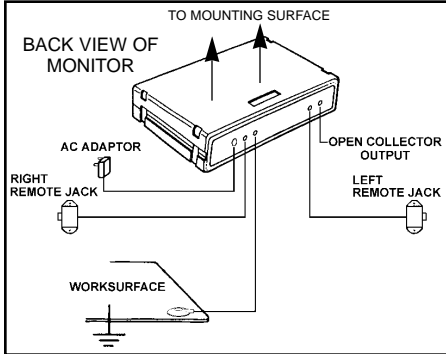

Figure 4. Wiring connection instructions for the 41137.
Figure 4 shows the monitor as it is viewed from the rear, with the work surface wiring in place.
1. Use rear access connections when using monitor with remote jacks. Access holes are provided on the bottom of the unit to loosen/tighten connections. See Figure 4 for wiring connection instructions. After remote jacks are mounted, route wires using a direct route; try to avoid running wires adjacent to metal, if possible.
3. **Confirm that worksurface surface resistance is 5×10^8 ohms or less.** Connect the stripped end of the work surface cord included with the unit to the terminal marked "Work Surface" on the back of the unit. Snap the other end to the worksurface as shown in figures 4 and 5.
interface with a computer. The open collector circuit is accessible through the terminal screw on back of the monitor. See figure 4 for location.